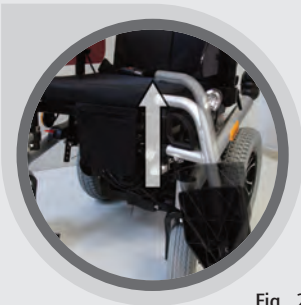

Fig . 24
- The legrest can be taken off completely in the "exterior position". (Fig. 24)